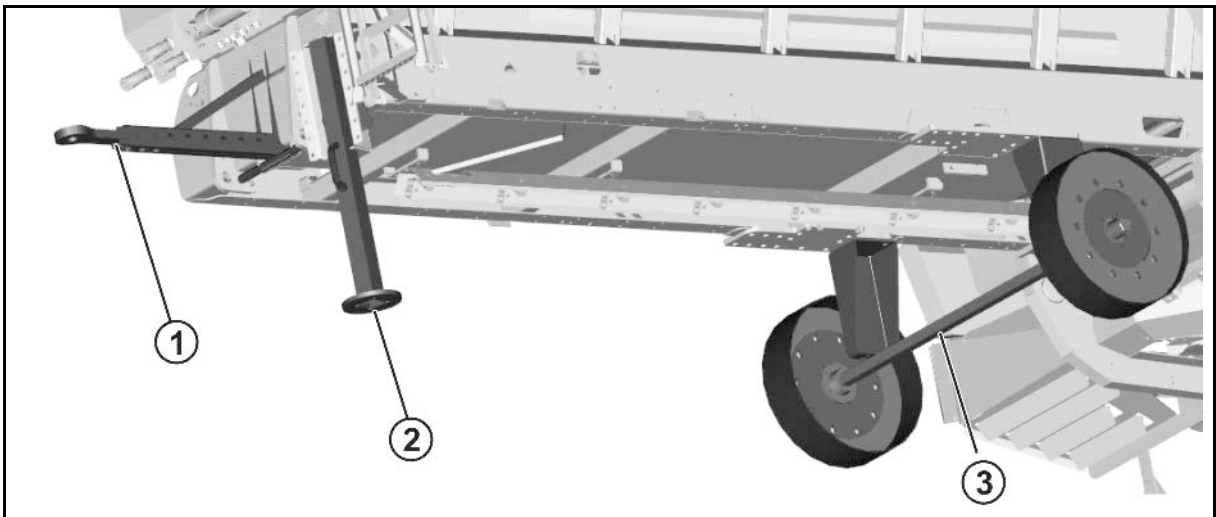

Fig. 4
2. Dismount the drawbar, jack and running gear (Fig. 4/1, 2, 3).